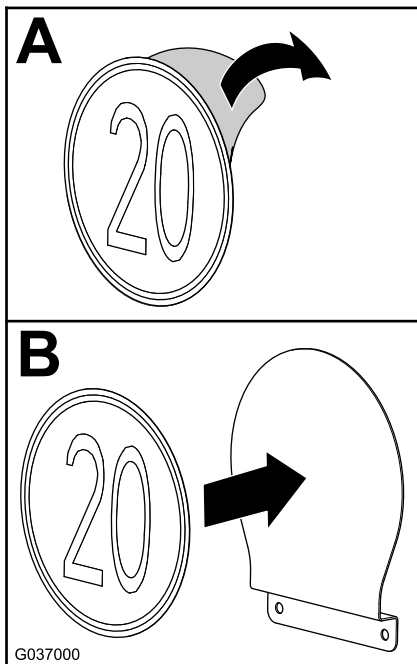

Figure 13
1. Remove the backing from a speed decal (A of Figure 13).
2. Align the decal to the speed sign as shown in B of Figure 13.